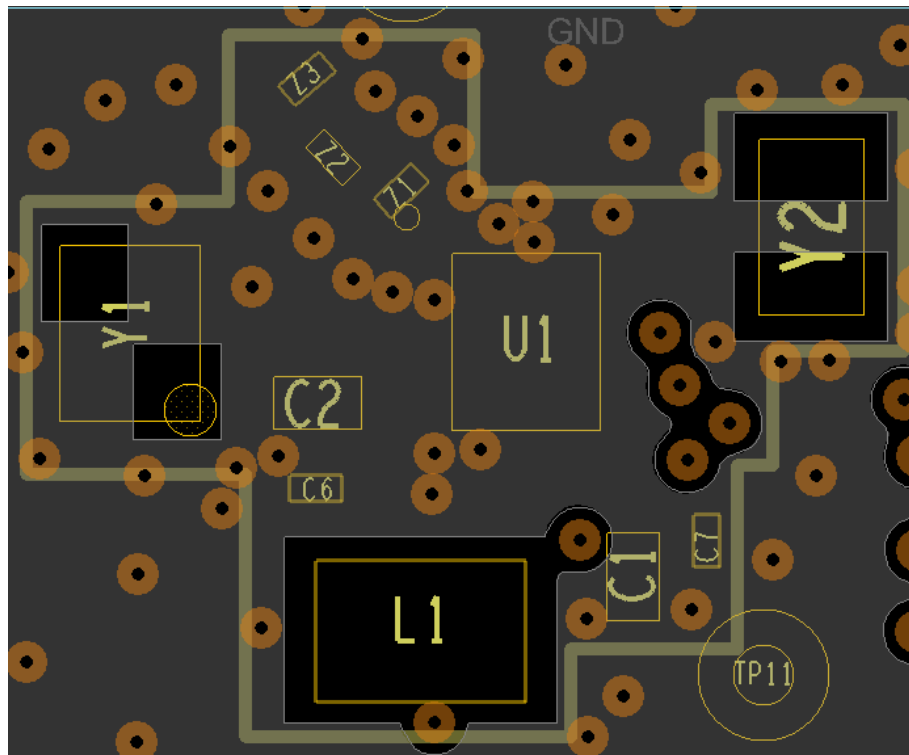

Figure 34: WLCSP17 PCB Placement and Routing – GND plane - INT1 Layer
- Remove the area on the INT1 ground layer under the pads of the XTAL to reduce the coupling as shown in Figure 34